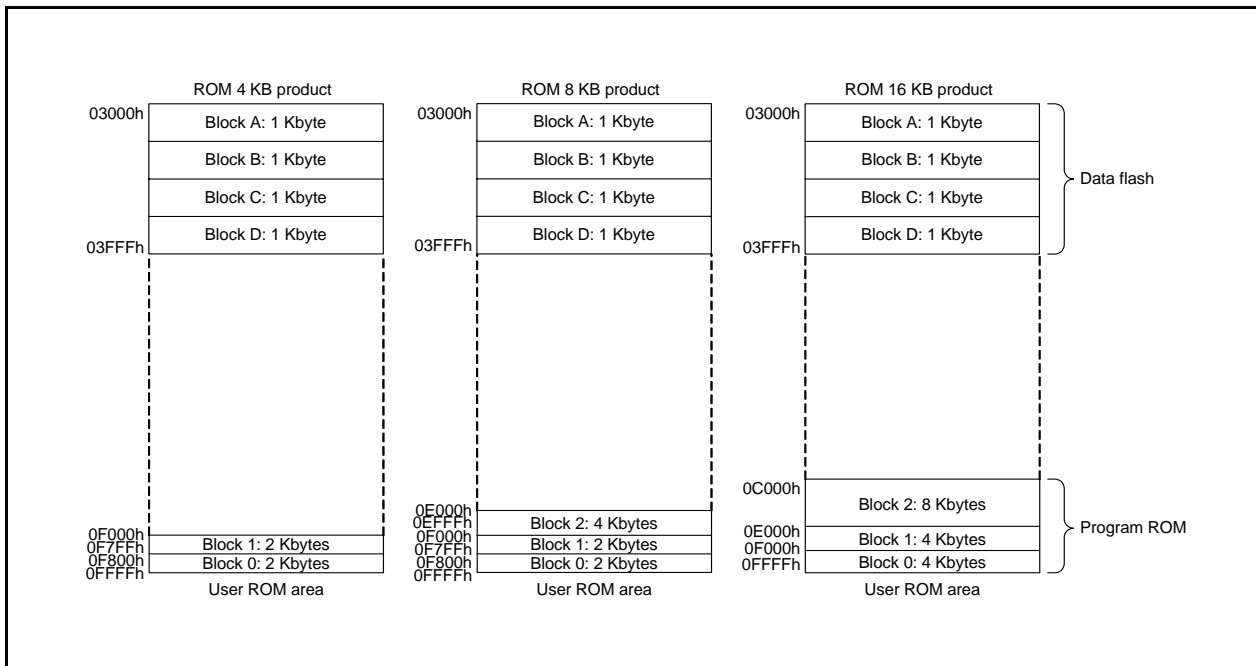

Figure 30.1 R8C/32M Group Flash Memory Block Diagram
- The number of blocks and block division vary with the MCU. Refer to **Figure 30.1 R8C/32M Group Flash Memory Block Diagram** for details.
Figure 30.1 show the R8C/32M Group Flash Memory Block Diagrams.